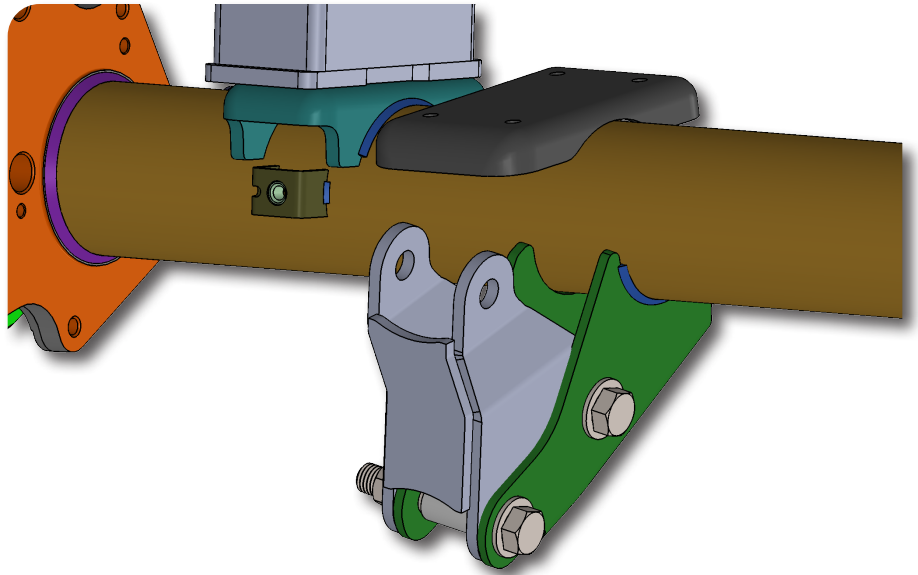

Figure 7
- 13. Denali Models (ARC Models) Only:** Install the provided rear shock relocation bracket with the provided sleeves and 9/16" hardware in the factory shock location and the new hole drilled in the previous step. The bracket should offset the factory bracket to the outside of the vehicle (Fig. 7).